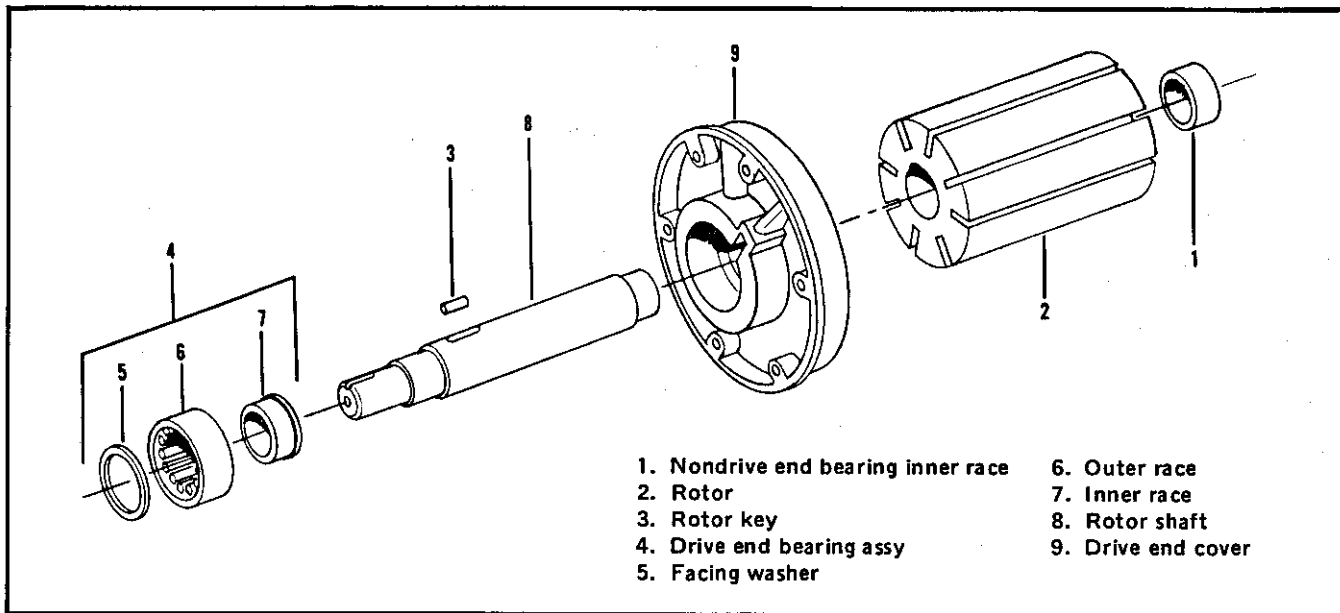
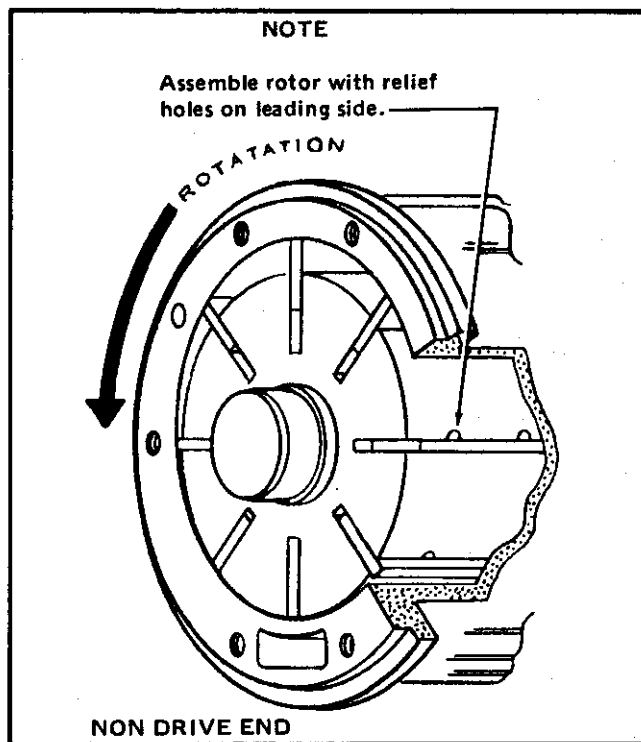

Figure 3-5. Rotor, shaft, and end cover assembly
Figure 3-6. Compressor rotor installation
Do not disassemble rotor, shaft, and drive end cover assembly (89 through 93) and inner race of bearing (67) unless it is determined that one of these parts must be replaced. When necessary to disassemble the rotor, shaft, and drive end cover, refer to figure 3-5 and disassemble in the following manner. Remove nondrive end bearing inner race with a suitable gear puller. If inner race cannot be removed with a puller, apply heat from a torch and heat the inner race evenly; then, remove from shaft with the puller.
Slide rotor (2, figure 3-5) off shaft (8), remove key (3), pull end cover (9) and bearing (4) off shaft. The bearing facing washer (5) will fall free. With suitable puller, remove outer race (6) from end cover (9). Remove inner race (7) as described above for removal of nondrive end bearing inner race.
d. If the rotor, shaft, and end cover were disassembled (see paragraph 3-5b), refer to figure 3-5 and assemble as follows.
(1) Heat bearing inner races (1, 7) evenly in hot cooking oil to a maximum of 350°F(177°C). Install drive end bearing inner race (7) on shaft (8) to the shaft shoulder.
(2) Assemble the bearing outer race (6) and facing washer (5) on inner race (7). Assemble shaft and bearing assembly through end cover (9) pressing bearing assembly (4) into cover (9).
(3) Place rotor key (3) in keyway of shaft (8) and slide rotor (2) onto shaft (8). Make certain that relief holes in rotor blade slots are on the leading edge in relation to direction of rotation. Refer to figure 3-6.
(4) Place heated nondrive end bearing inner race (1, figure 3-5) on shaft (8) to shoulder. The rotor, shaft, and end cover assembly may now be assembled into stator as assembly progresses.